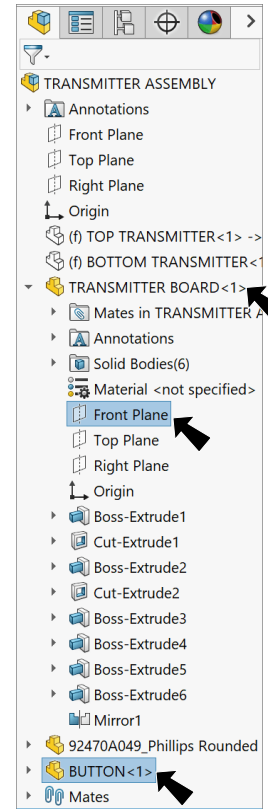

Fig. 19
Step 1. Expand **T Board** in Feature Manager, **Ctrl click Front Plane**  and **Bottom**  part to select both, Fig. 19.